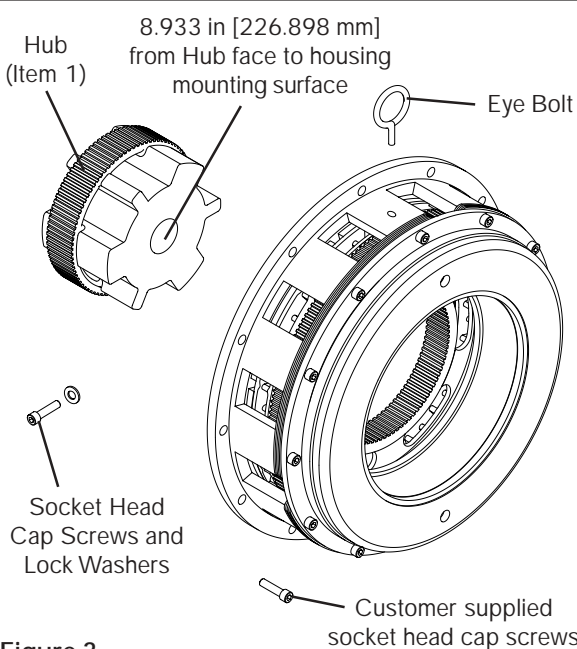

Figure 3
- b. On the QFB, use the two Socket Head Cap Screws and Lock Washers (See Figure 3).